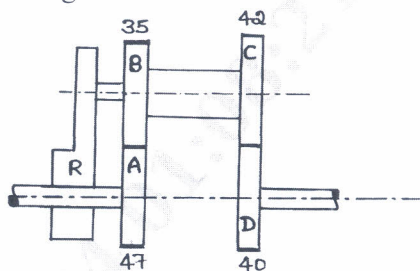

Fig.Q.7(b)
- b. An epicyclic gear train as shown in Fig.Q.7(b). The wheel 'A' is fixed and the input at the arm 'R' is 3 kW at 600 rpm. Find the speed of wheel 'D' and the torque on it and the torque required to hold the wheel 'A'. Neglect frictional losses.